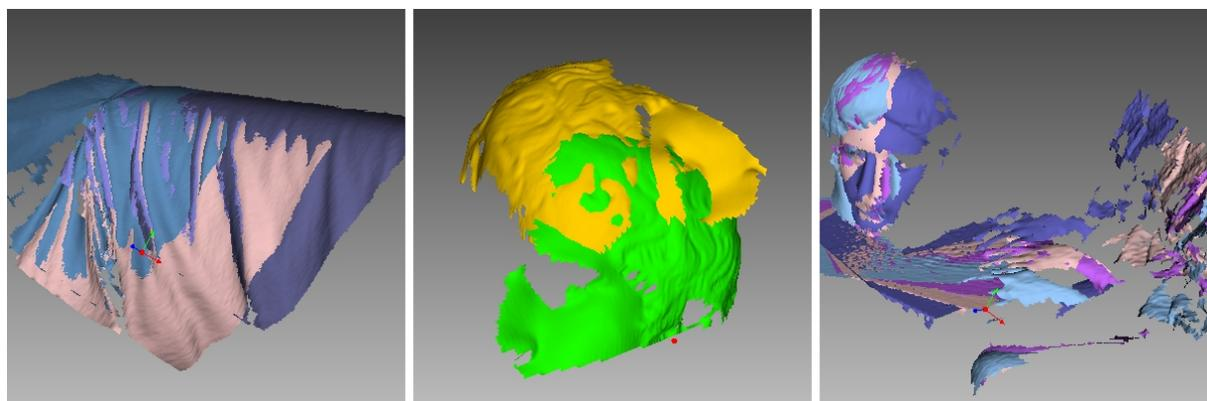

Figure 56: Possible scan errors.
- Misaligned frames (see Figure 56, left)—may occur because of small size, an insufficient number of geometrical features on the object or an insufficient number of polygons in a frame.
- Misaligned parts (see Figure 56, middle)—occurs when the real-time alignment algorithm incorrectly determines the position of the new frame relative to previous ones.
- Unwanted objects in the frame (see Figure 56, right).